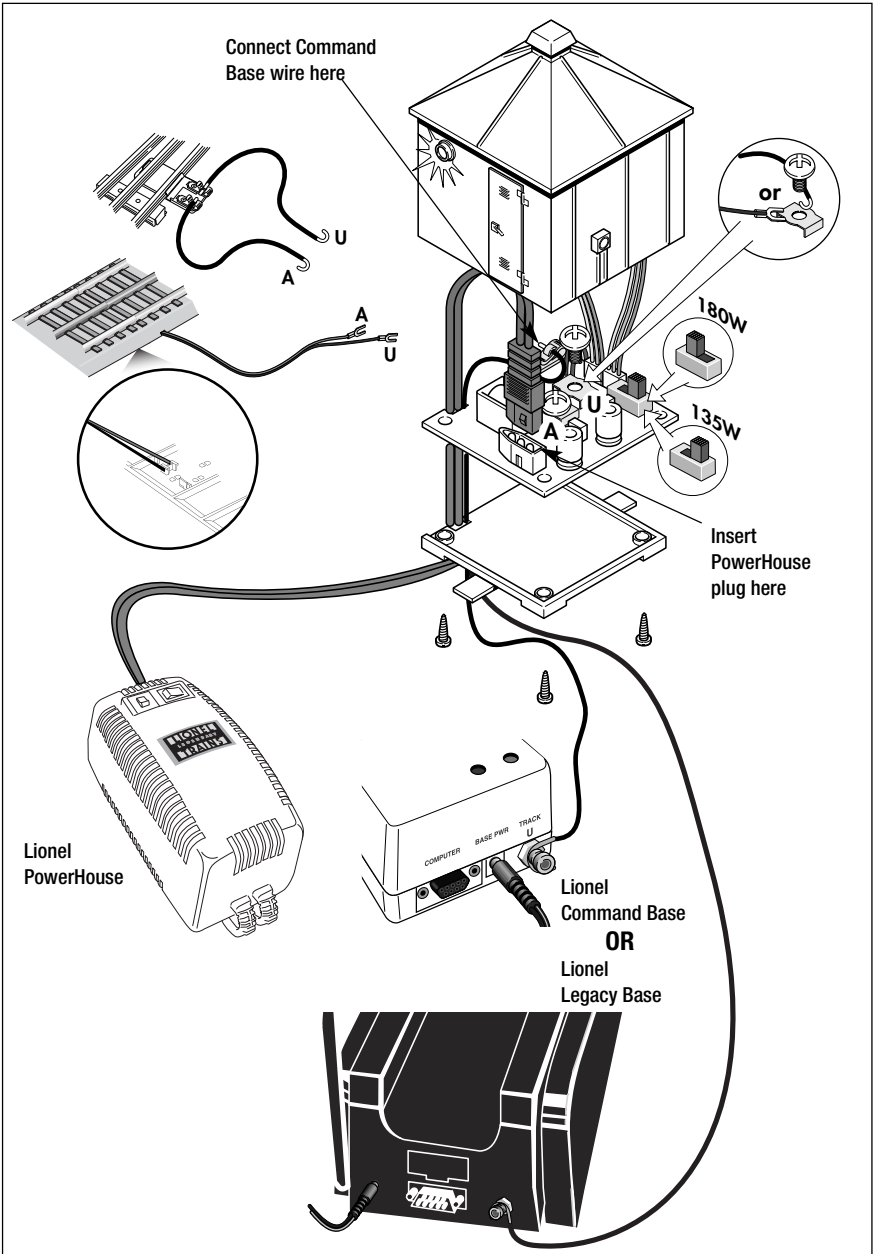

Figure 5. Direct Lockon connections and switch location
The PowerHouse Power Supply and Command Base connections are found inside of the structure. Follow these steps and refer to Figure 5 on page 9 as you make these connections.
- 6. Route the PowerHouse Power Supply cord and the Command Base or Legacy Base wire through the slot as illustrated in Figure 5.**